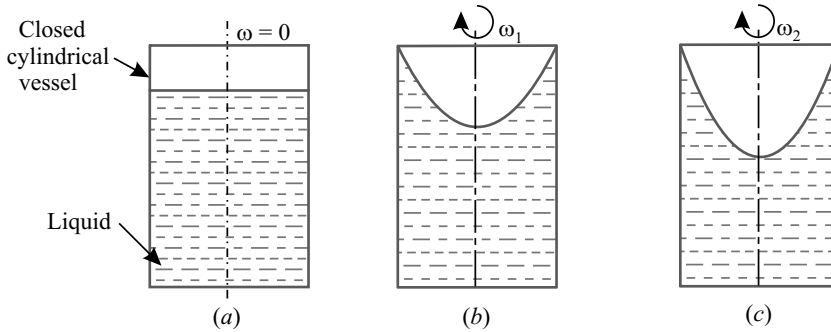

Fig. 6.72. Rotation of liquid in a closed cylindrical vessel.
When a cylindrical vessel sealed at the top and filled with some liquid is rotated about its vertical geometrical axis, the shape of paraboloid formed due to rotation of the vessel will be as shown in Fig 6.72 for different speeds of rotation.
- Fig. 6.72 (a) shows the cylindrical vessel when it is *stationary* (i.e., it is not rotated, $\omega = 0$)
- Fig. 6.72 (b) shows the shape of the paraboloid formed when the *speed of rotation* is ω_1 .
- Fig. 6.72 (c) shows the shape of the paraboloid formed when the *speed of rotation* is ω_2 ($\omega_2 > \omega_1$). In this case the following are unknown: